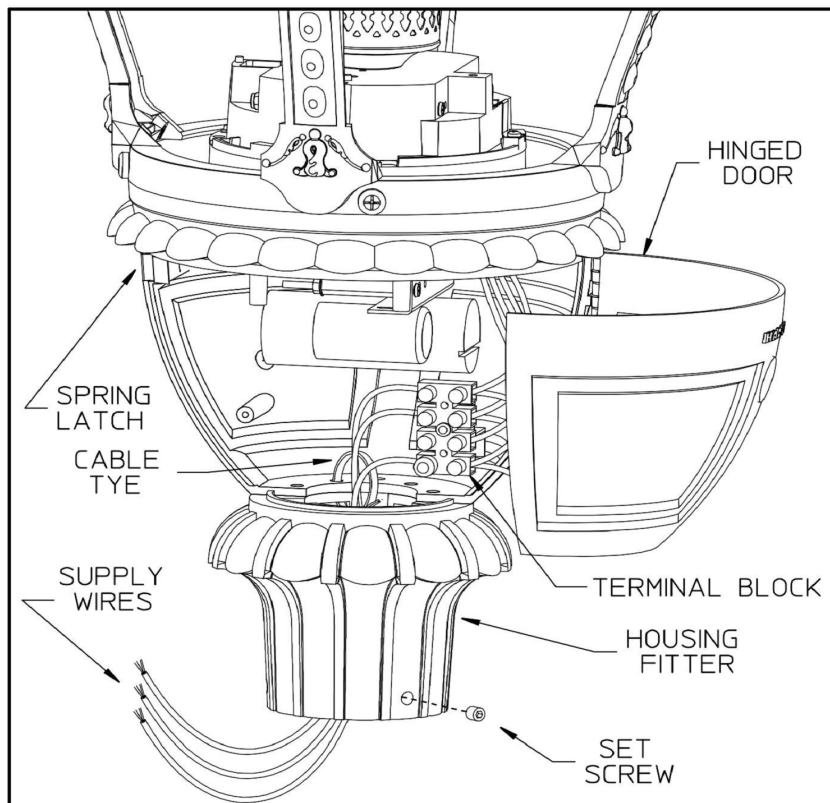

FIGURE 4
- STEP 1.1: Depress spring latch and swing hinged door open for access to terminal block in fitter/housing. [See Fig.4]